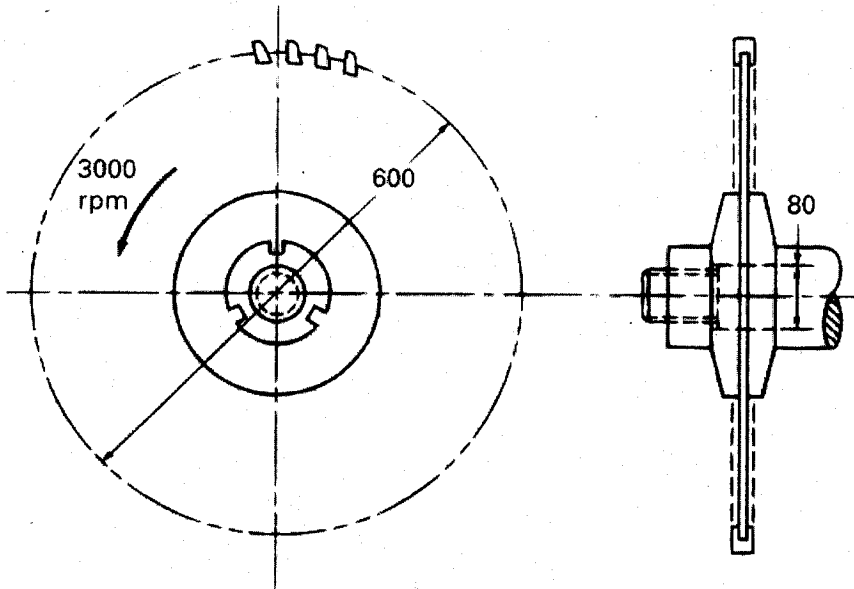

Figure 3.
3. A circular saw blade, shown in Figure 3, consists of a thin steel disc 600 mm in diameter on which are mounted 96 equally spaced tool-steel inserts, each weighing 0.75 N. It is placed over an 80 mm diameter spindle that rotates at 3000 rpm. The centre of mass of each insert is at the periphery of the disc. What disc thickness is required if the yield strength of the material is 250 MPa and the factor of safety is 2.5? Assume the density of steel is  $7.778 \times 10^3 \text{ kg/m}^3$  and that the Poisson's ratio is 0.3. Note also that weight is given by mass multiplied by  $g$  (acceleration due to gravity,  $9.81 \text{ m/s}^2$ ).